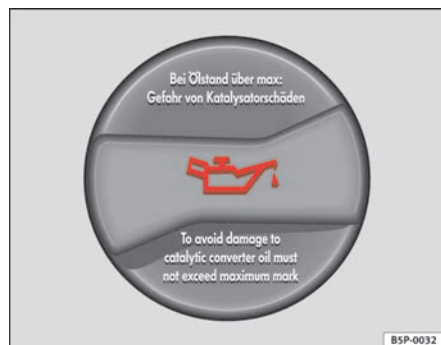

Fig. 128 In the engine compartment: Engine oil filler cap
- Unscrew cap from oil filler opening ⇒ fig. 128.